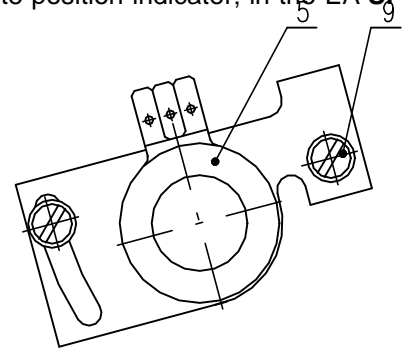

Fig. 5
4.3 Adjustment of resistant transmitter (Fig.5)